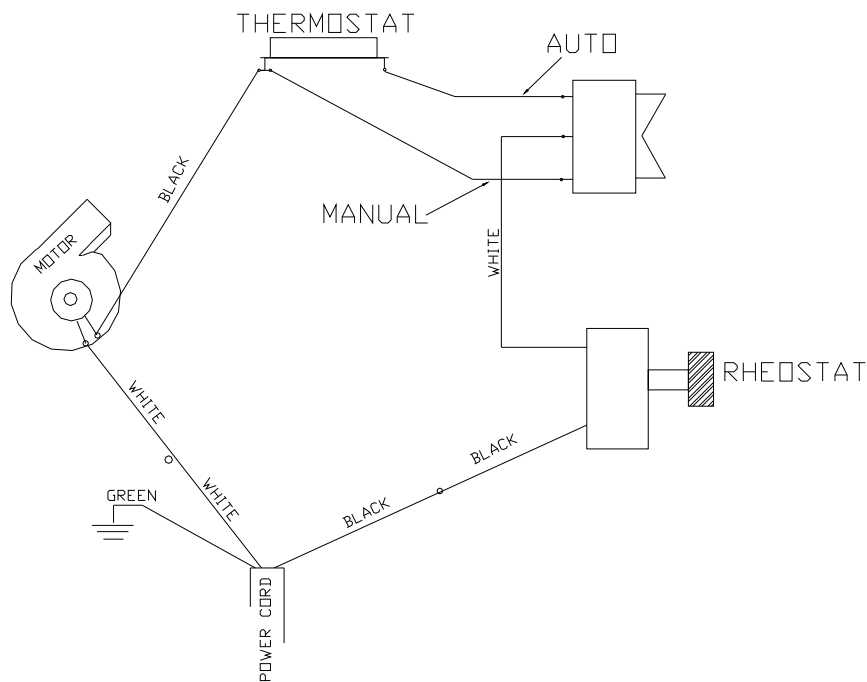

Figure 14
2. Open primary air control located on right side of stove under hearth. (See Page 25, Figure 14). To close, push all the way in. To open, pull all the way out. Adjustments to airflow may be made by positioning handle anywhere in between.
Your heater is equipped with a room air blower. For operation and wiring (See Figure 14).